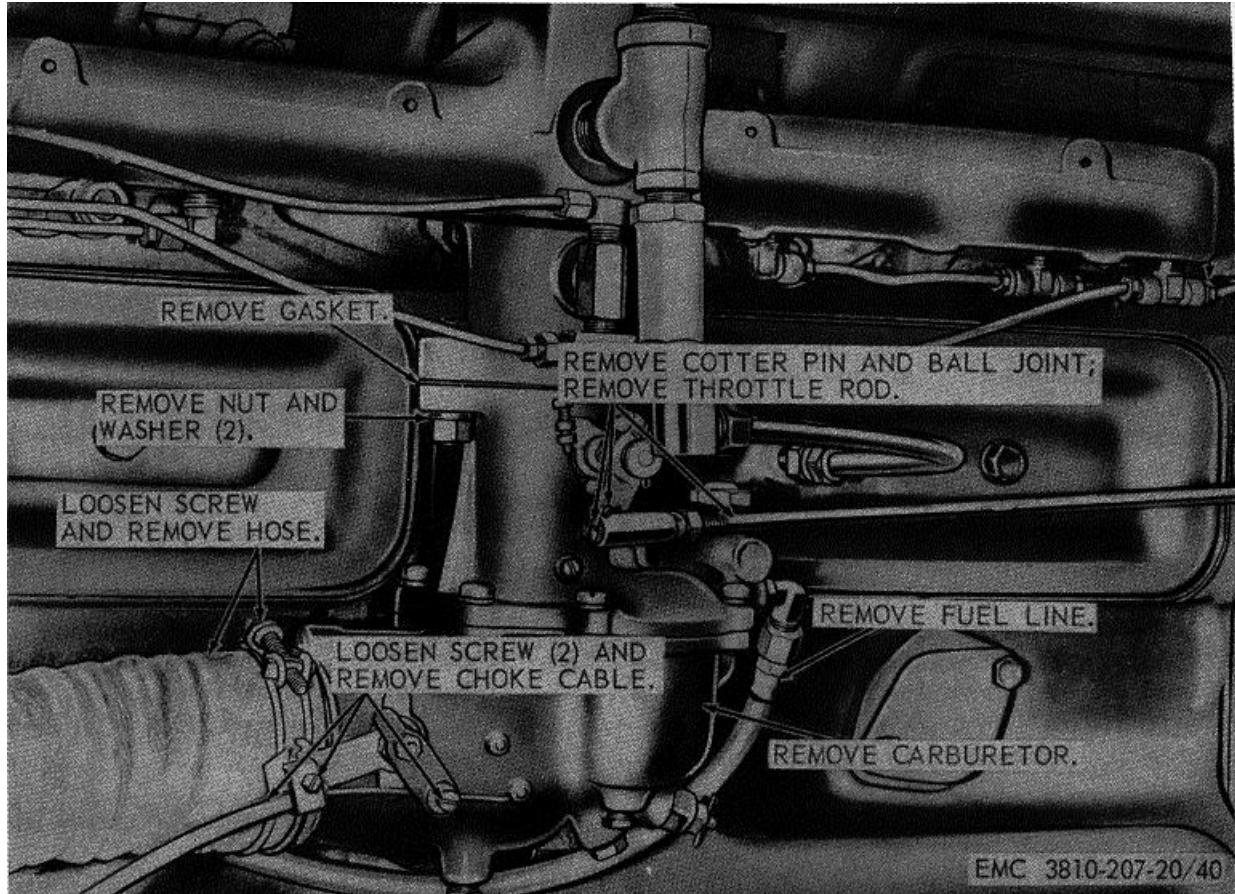

Figure 40. Carburetor, removal and installation.
- a. *Removal.* Remove the carburetor as instructed on figure 40.
- (1) Clean the carburetor with an approved cleaning solvent.
- (2) Inspect the carburetor for wear, improper operation, and other damage. Replace defective carburetor.
- c. *Installation.* Install the carburetor as illustrated on figure 40.